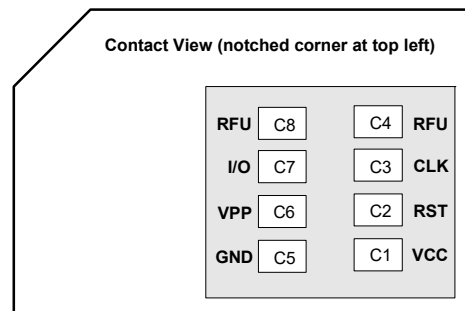

Figure 3-5: SIM Card Contacts (Contact View)
a. See Figure 3-5 on page 33 for SIM card contacts.